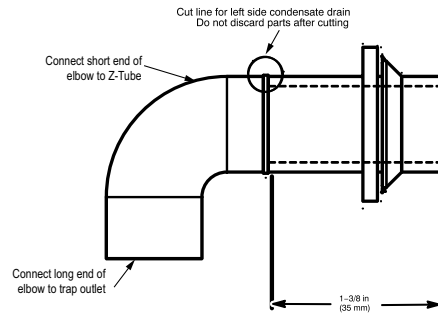

Fig. 17 – Modify Rubber Drain Elbow Horizontal Orientation
- The Z-pipe is connected to the condensate trap and the outside of the furnace by modifying the formed rubber drain elbow as shown in Fig. 17.
- Remove the formed grommet from the rubber drain elbow by cutting the elbow along the vertical line located about 1-3/8 in. (35 mm) away from the formed grommet. See Fig. 17. **DO NOT DISCARD THE FORMED GROMMET OR THE RUBBER ELBOW.** Both of these pieces will be used.
TIP FROM CONTRACTORS: When installing the furnace horizontally, use the entire drain elbow (that is, do **NOT** cut as shown in Fig. 17) to connect the trap to the drain line. This helps to prevent bumps and shocks to the drain line from damaging the furnace drain trap. Avoid misalignment of the drain pipe which may cause kinks in the elbow.